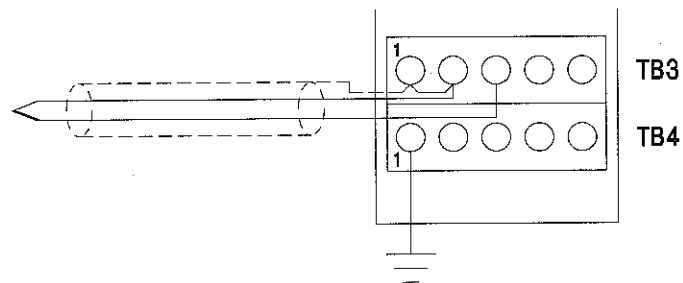

Figure 7 - Input Wiring
- For the best noise rejection, it is recommended that you wire the input as shown in **Figure 7**.